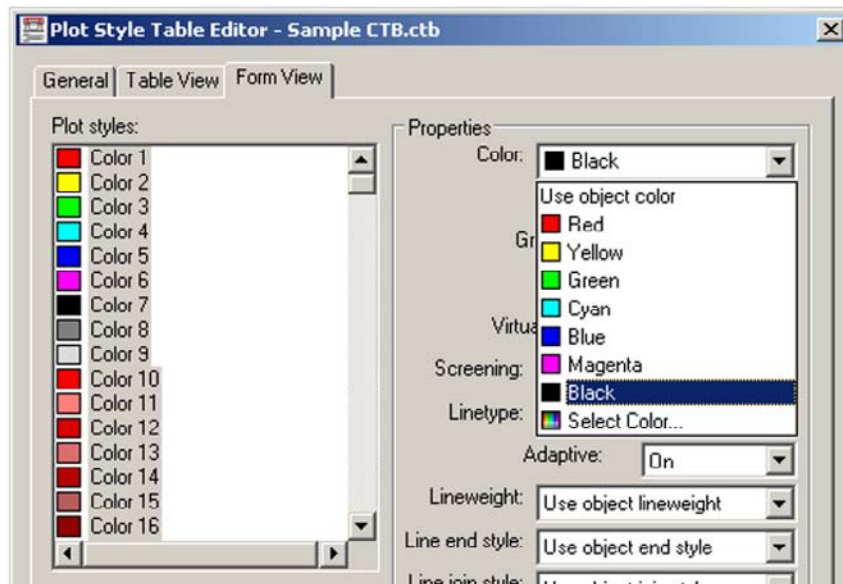

Figure 20.7 – Selecting black for all colors
- Then as all the colors are highlighted blue, select the very first drop-down choice in Properties called “Color:” and select Black (Figure 20.7). All colors will be assigned black ink.